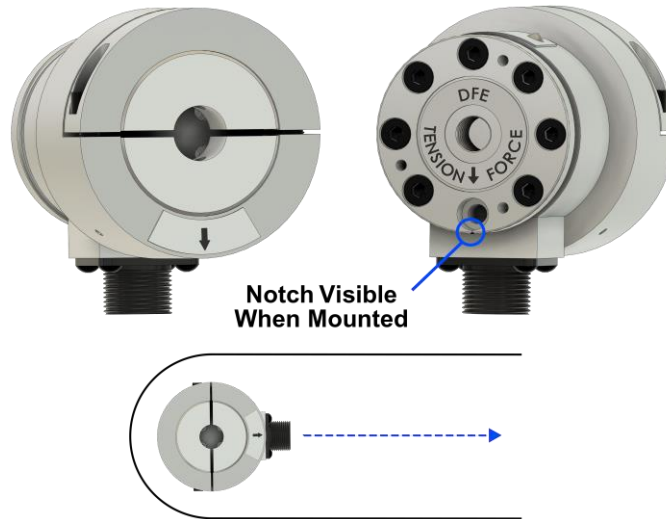

Figure 7 - TENSION FORCE DIRECTION
This part of the installation is different for the (D) and (L) versions. Use the procedure under letter A for the (D) version. Use the procedure under letter B for the (L) version. However, refer to Figure 7 for both versions for illustration of the shaft end clearance.
4. ALIGN THE TRANSDUCERS (see Figure 7)